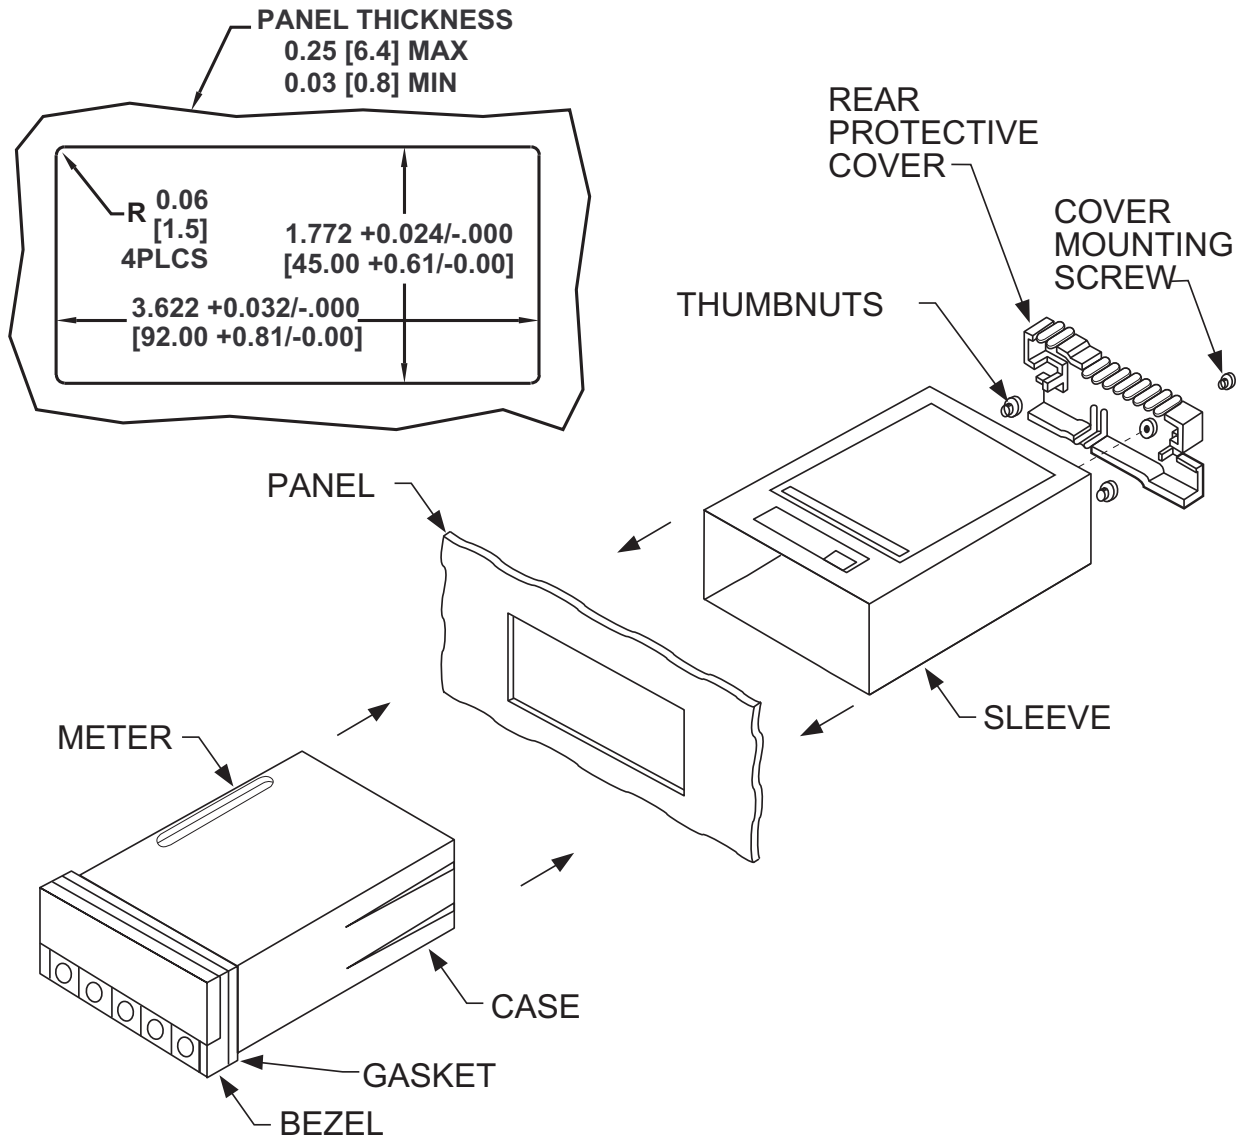

Figure 5-10. Panel Mounting Assembly
The meter can be mounted in a panel so that the front of the meter is flush with the vertical panel surface. Panel mounting can be seen as simply “sandwiching” the panel between the inner case and the outer sleeve in the last phases of assembly. **Figure 5-10** shows the panel cutout dimensions, and the dimensions for the panel thickness. It requires that the following already be done:
If all of these steps are done, use **Figure 5-10** as a guide:
6. Punch or cut a hole in the panel using the panel cutout dimensions in **Figure 5-10**. Remove burrs and paint the panel as required.